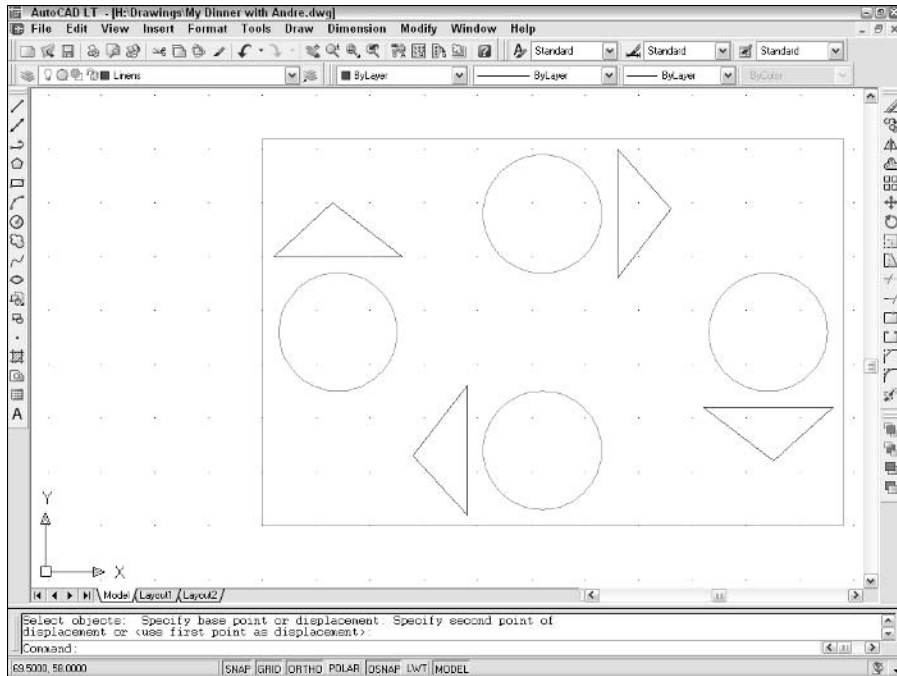

Figure 4-13:
7. Repeat Steps 2 through 6 until the table is set the way you like it. Figure 4-13 shows my arrangement.